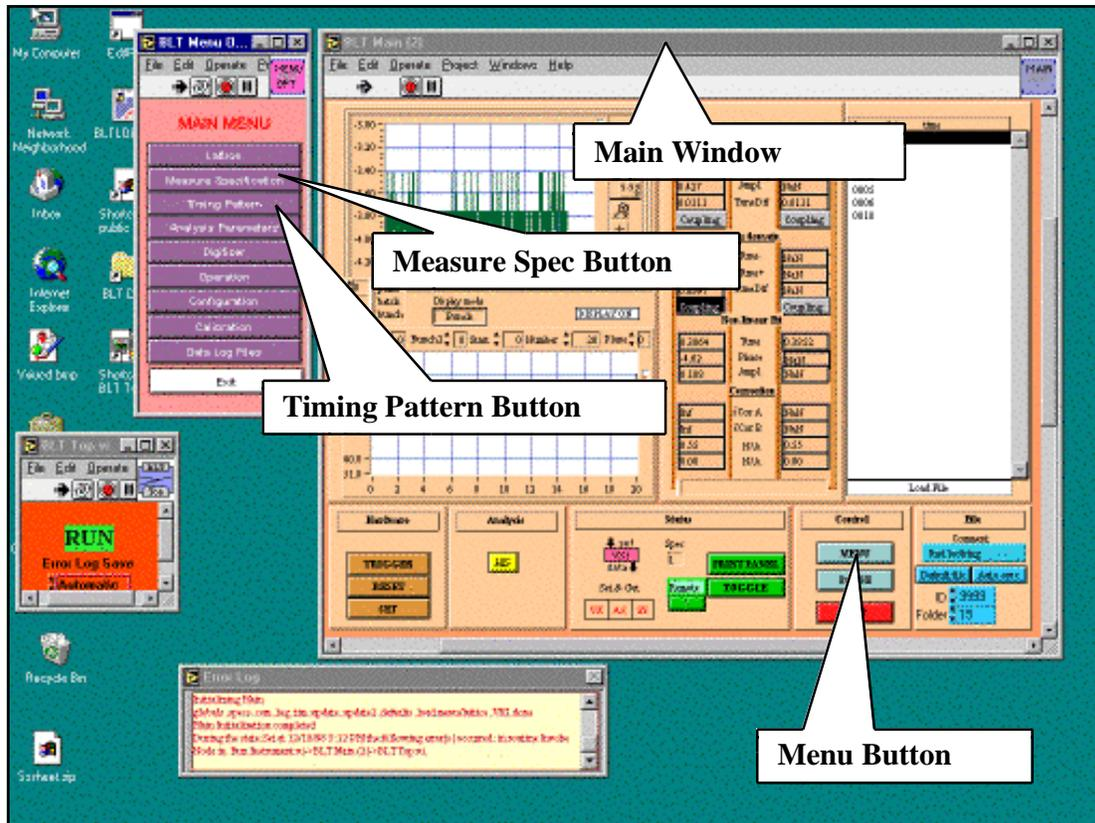

Figure 3. The BLT Desktop.
3. To change or view Measurement Specifications click on the button as shown in figure 3. (Alternatively, if you want to view or change Timing patterns click on the button labeled Timing Pattern). When done changing or viewing, you should use the exit button of the Spec or Timing Menu but you don't have to click the Exit button of the Main Menu (but you can if you want to).